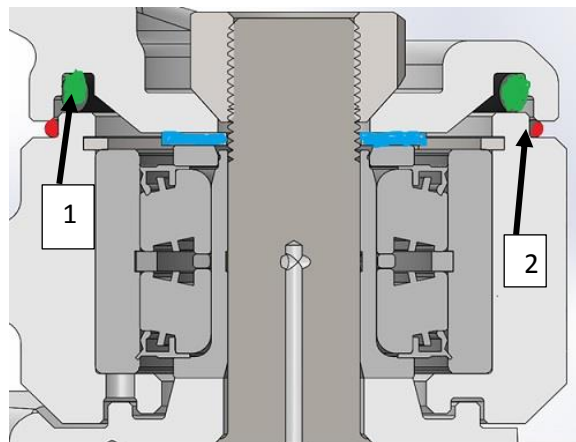

Figure 118
13. Two O-rings used under the stabilizer. The O-rings are placed between the stabilizer and the bearing and over the seal of the bearing. Figure 118
14. The O-ring between the stabilizer and bearing is used on all units, item 1. The O-ring around the bearing is used on Model Year 2019 and above, item 2.